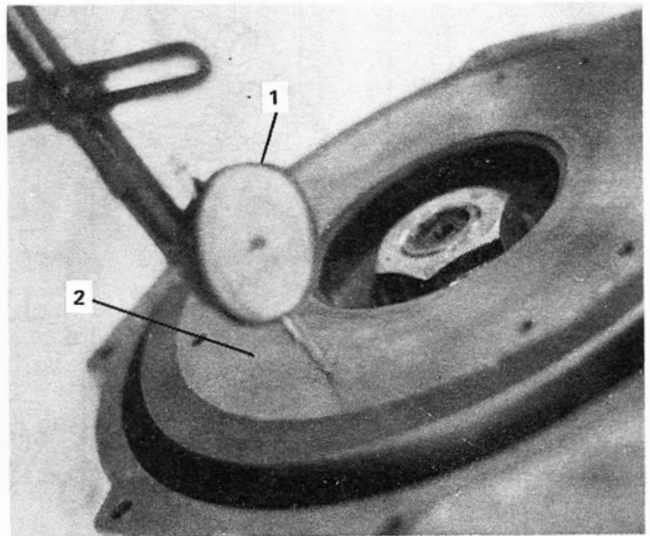

Figure 30
2. Measure the flywheel run-out with a dial indicator. Measure the run-out in the area where the clutch disc contacts the flywheel, see Figure 30. If the run-out exceeds the specified limit page 29, the flywheel should be machined to within specifications.